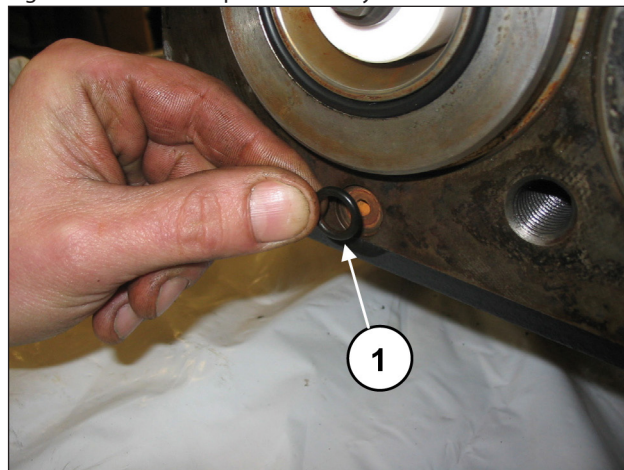

Fig. 188
Mount the recirculation hole O-ring (pos. ①, Fig. 188). **Facilitate keeping the O-rings in place with a light smearing of grease.**